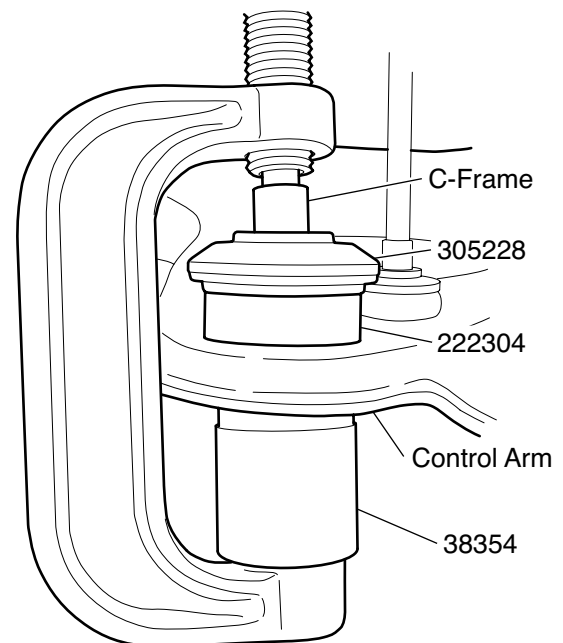

Figure 2. Ball Joint Installation
3. Position 222304 and 305228 on the ball joint as shown in Figure 2.